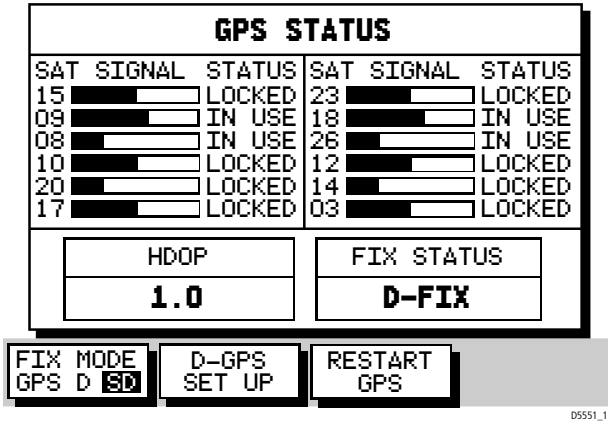

Figure 4-2: GPS Status Screen
1. Press the GPS SET UP soft key to display the GPS Navigation Status screen with associated soft keys as shown in *Figure 4-2*: